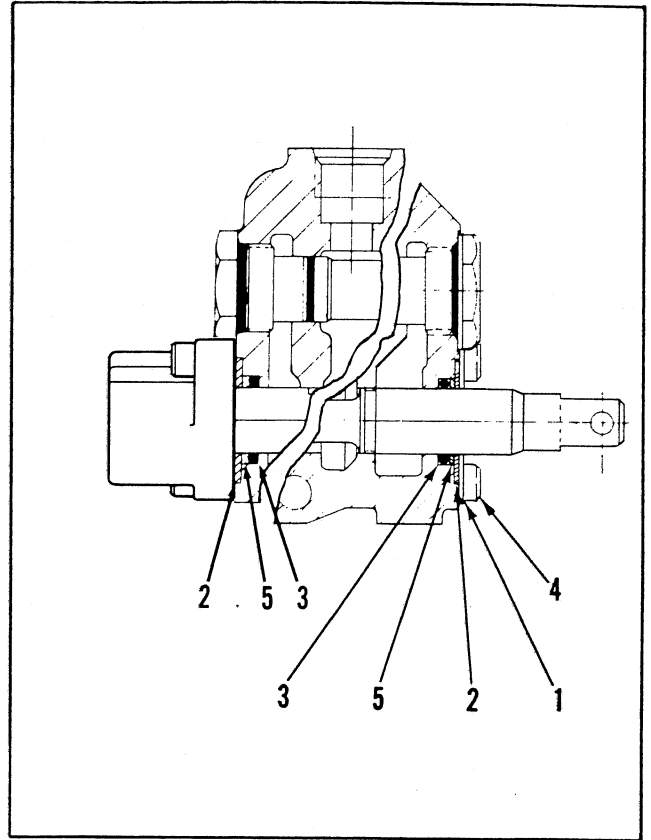

Figure 3-2. Spool Seal Assembly.
Figure 3-2 shows spool assembly—less the complete handle assembly. When handle bracket is furnished, retainer plates and screws (items 1 and 4, Figure 3-2) are omitted. Seal assembly is retained by the handle bracket which will also retain the optional wiper seal.
3. Remove retainer plate (Item 1, Figure 3-2), retainer plate washers (Item 2), back-up washers (Item 5), and spool seals (Item 3).